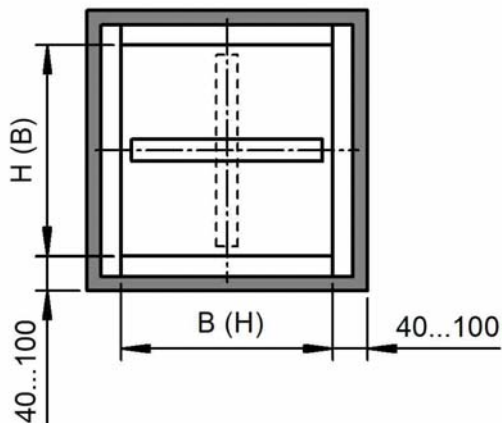

Figure 6: Annular gap size for complete mortar lining in solid walls
- Distance between housing and wall head (see Figure 16)  $> 90$  mm: version with lintel (statically load-bearing) is required (see p. 9 Figure 6: Annular gap size for complete mortar lining in solid walls). The installation kit type GDA is not used here.